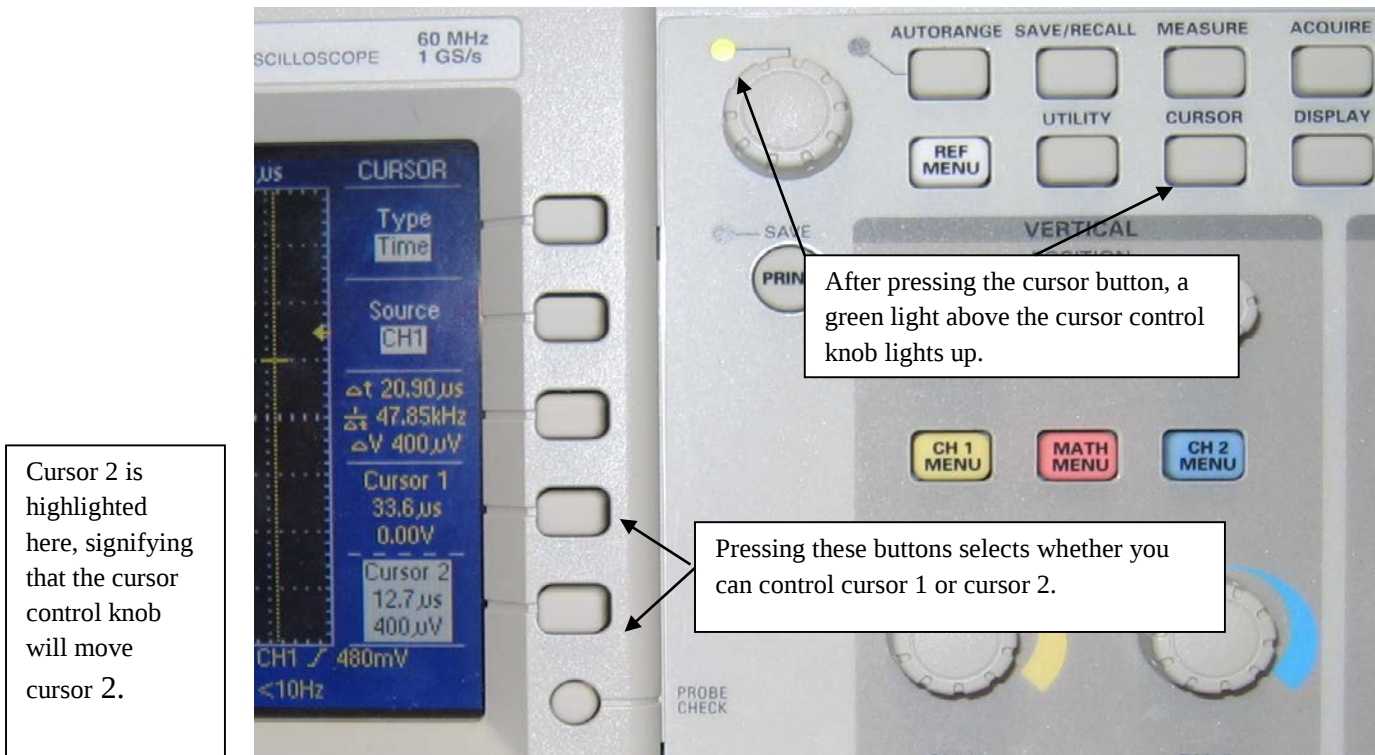

Figure 12-6. Selecting and adjusting the cursors.
- Press the CURSOR button. A green light will turn on next to the cursor control knob at the top of the oscilloscope as shown in Figure 12-6.
- Select which cursor you want to adjust by pressing the button next to its name on the screen. The name of the selected cursor will be outlined in white as in Figure 12-6.